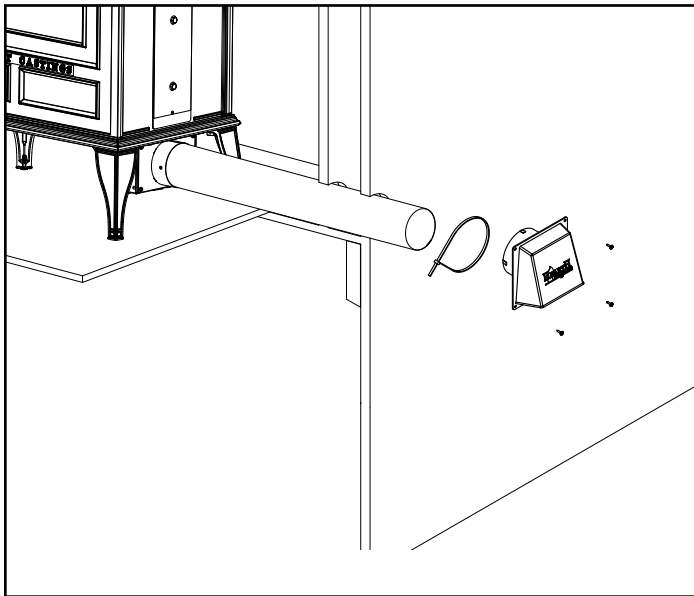

Figure 5.3 - Rear Installation
2. Using a #2 Phillips screw driver attach the flex adapter to the appliance using 4 screws. Figure 5.3 & 5.4.